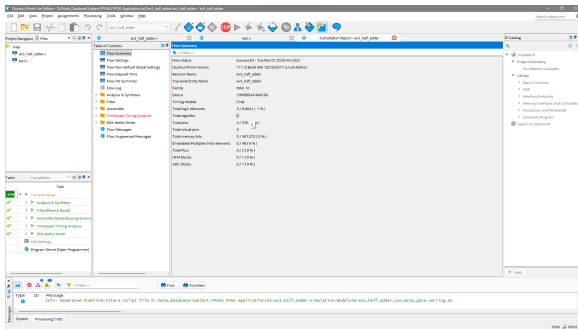

Figure 27: Click "Start Simulation"
18. Check compilation result. (Figure 27)